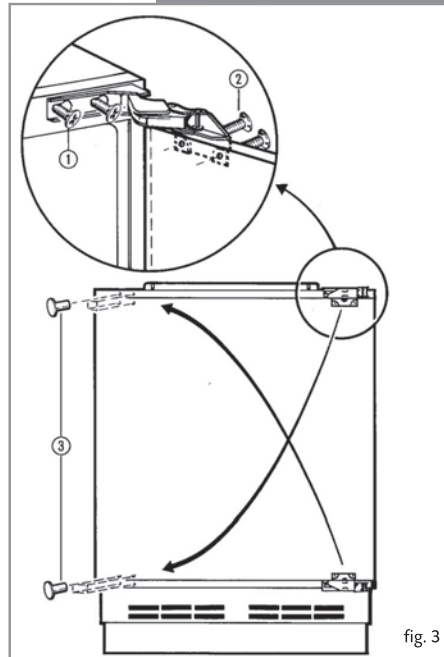

fig. 3
- Loosen the hinge fixing screws (1).
- Lever off the corner caps (3) with a knife blade.
- Insert the hinge fixing screws (1) on the opposite side.
- Remove the door fixing screws (2) and relocate the hinges according to figure 3.
- Locate the door on the hinge fixing screws (1) and tighten.
4. Remove the two screws, which attach the upper hinge to the appliance door (Fig. 3). Take special care and hold the appliance door vertically.